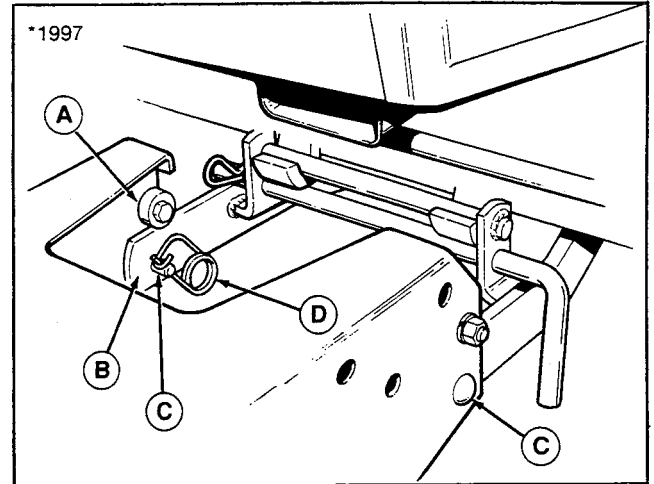
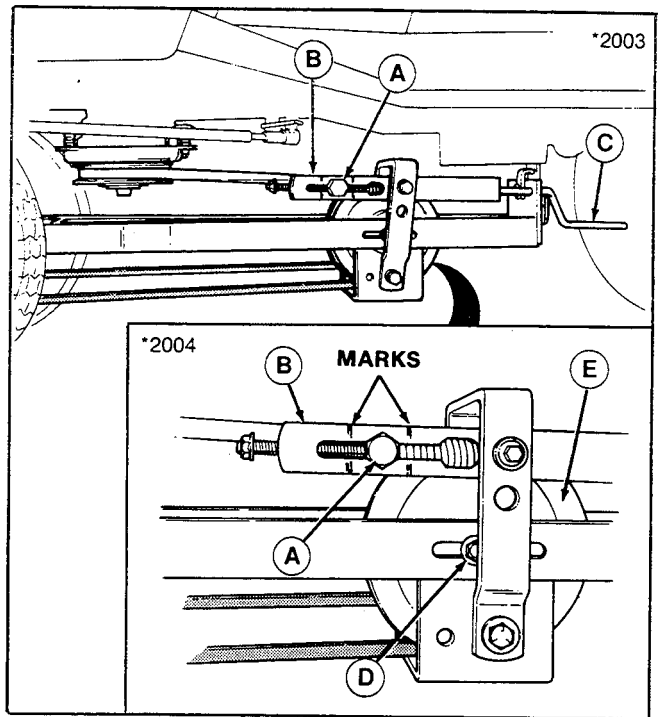
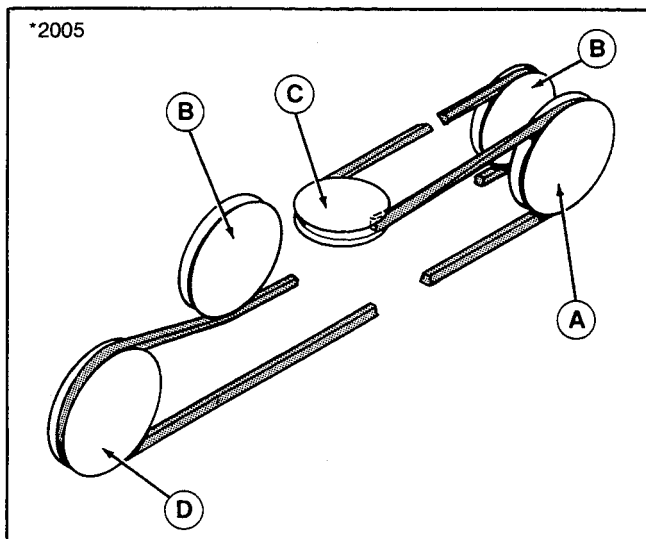

Figure 3. Install Snowthrower
Figure 7. Install Belt
Figure 8. Belt Routing
5. Lift up snowthrower so that spacers (A, figure 3) rest on tractor hitch arms (B). Line up snowthrower brackets with hitch arms (B). Before installing snowthrower, install belt from hitch idler pulley to snowthrower pulley (refer to figure 8). When hitch is aligned, install clevis pins (C) and safety clips (D).
9. Check the belt routing around the snowthrower pulley, idler pulley, and hitch pulleys. Refer to figure 8. To install belt around electric clutch pulley, the trunion (A, figure 7) on the tension spring assembly (B) must be fully forward. If it is not, turn handle (C) to move trunion forward. Install the belt and turn handle so that trunion is centered between marks to ensure proper belt tension.